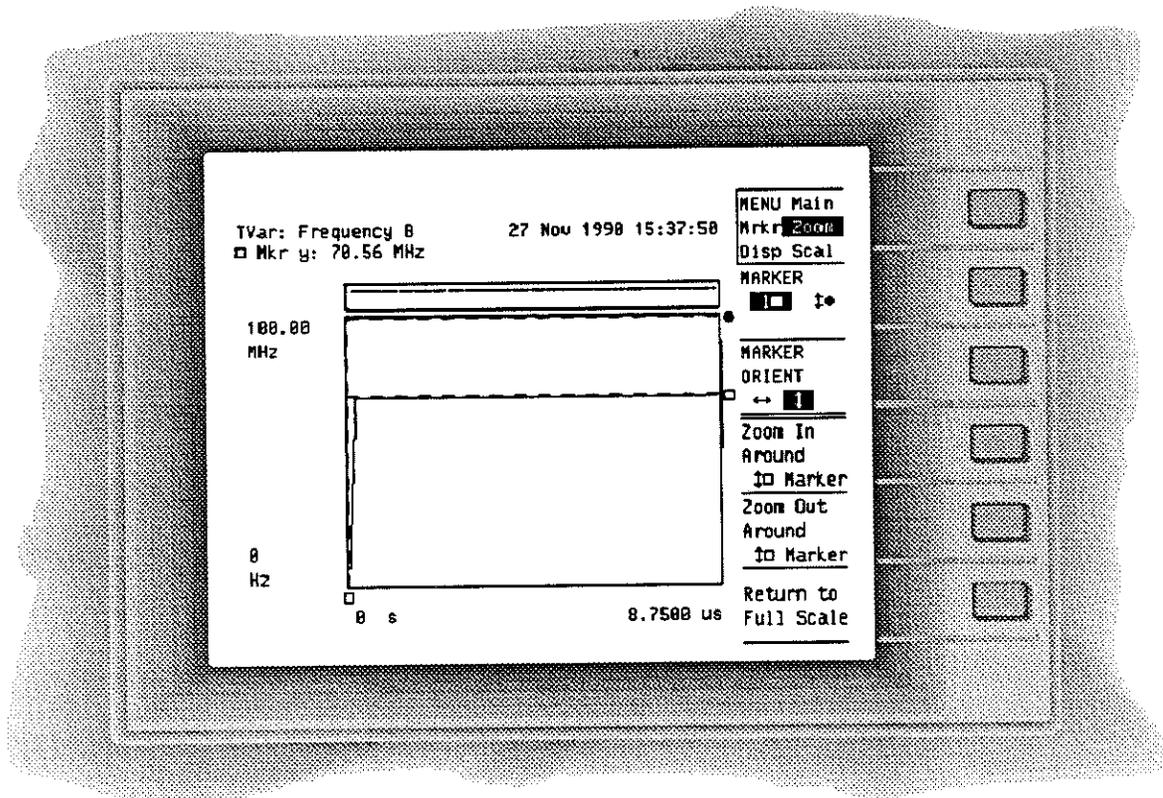

Figure 3-7. Modulation Domain Display (F vs. T)
8. Rotate the **ENTRY/MARKER** knob until the dashed horizontal cursor line lies on top of the pulse carrier. (See *Figure 3-7*)